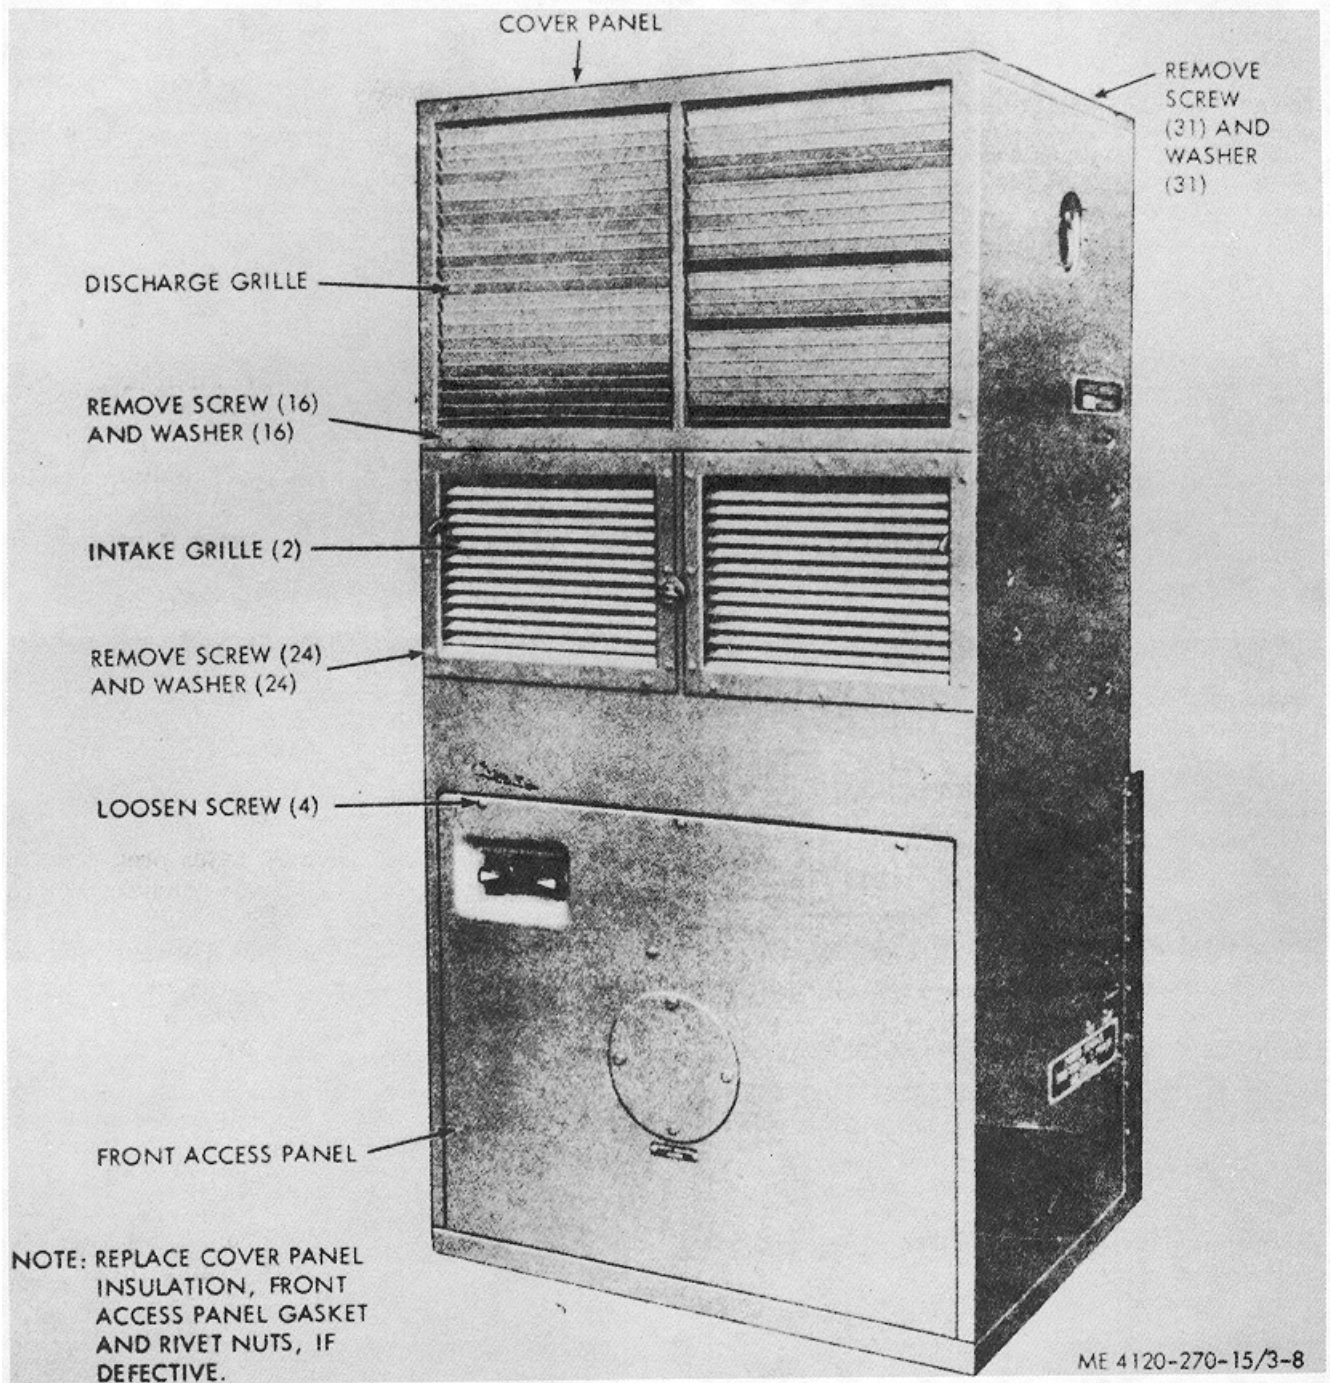

Figure 3-8. Cover panel, discharge grille, intake grille and front access panel, removal and installation
- a. Removal. Refer to figure 3-8, and remove the cover panel, discharge grille, intake grilles and front access panel.